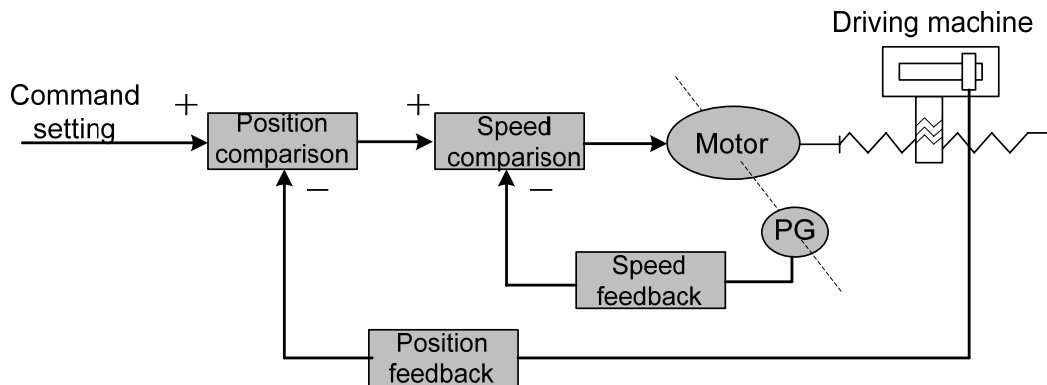
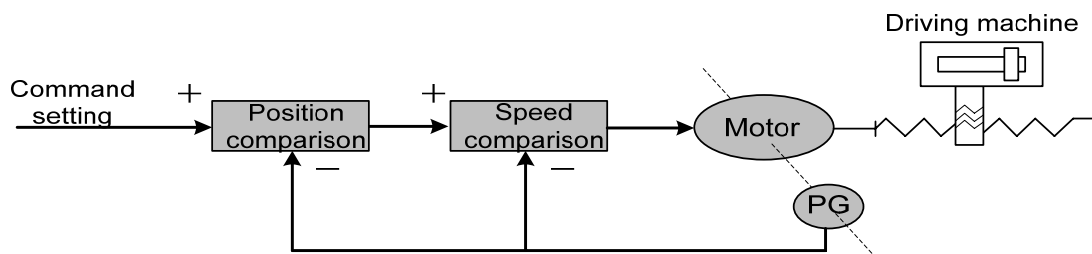

Figure 1-4 Full-closed loop control
Figure 1-5 Semi-closed loop control
- **Closed-loop control:** The controlled variable of the control system is detected and transferred to the controller by the feedback device to affect the output of the controller and thereby to change the controlled variable. Closed-loop control is classified as **full-closed loop control** and **semi-closed loop control** by the detection points. The feedback device’s direct detection of the controlled variable and use of it for feedback is called full-closed loop control (e.g. Figure 1-4) and the position of the gear is the controlled variable. The full-closed loop control over the position of the gearing is achieved by using the grating mounted on the gearing as a position feedback device and the encoder for the servomotor as a speed feedback. In the absence of the grating, the encoder for the servomotor is used as a position and speed feedback (see Figure 1-5). In this case, this is the semi-closed control over a mechanical position.